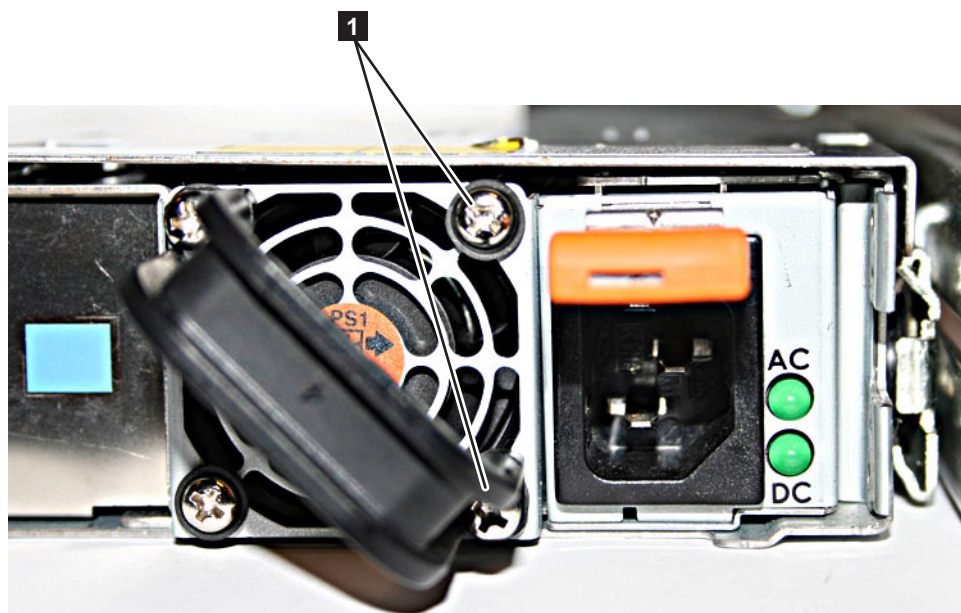

Figure 29. The SAN Volume Controller 2145-8G4 before you attach the cable-retention bracket
1. With the node powered off and the power cable removed, loosen and remove the two screws **1** on the right side of the rear plate that covers the power supply fan unit, as shown in Figure 29.